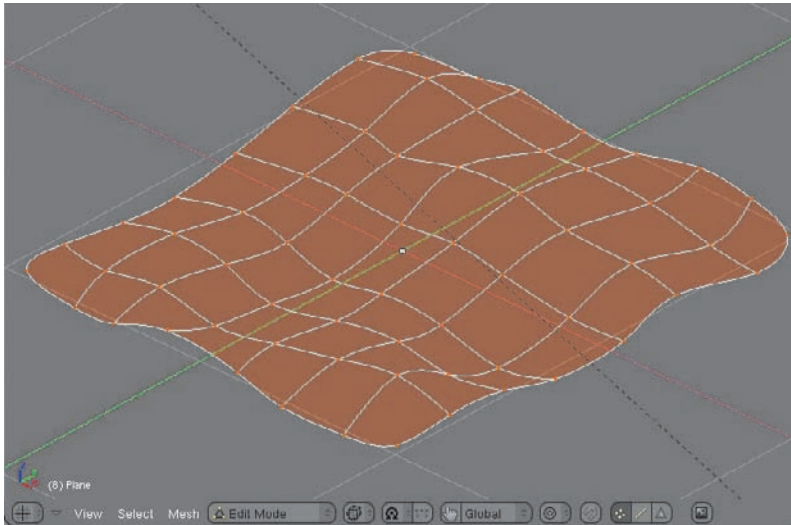

Figure 4.61 Simple ground mesh
1. Start with an ordinary plane. In Edit mode, in the 3D viewport, press the W key and select Subdivide Fractal. Set a factor of 7 for the number of subdivisions and 10 for the random factor. Add a Subsurf modifier and select Set Smooth to create the mesh in Figure 4.61.